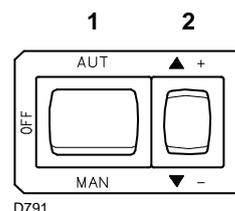
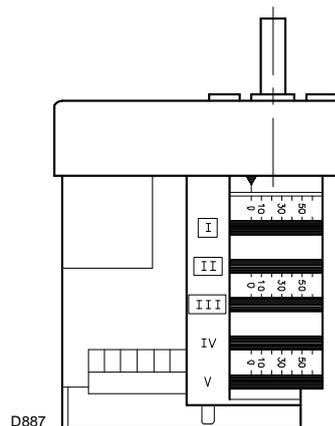

Fig. 24
Fig. 27
- Close load controls and set switch 1)(Fig. 24) to "MAN".
The servomotor (Fig. 27) provides simultaneous adjustment of the air gate valve, by means of the variable profile cam and the pressure regulator.
Press button 2)(Fig. 24) “output reduction” and keep it pressed until the servomotor has reached 20° (factory setting).
2)(Fig. 24) towards the “+” sign until the servomotor (Fig. 27) reaches the maximum position of 130°.
Press the switch 2)(Fig. 24) “output increase” a little so that the servomotor turns by about 15°.
- 5 s:** Servomotor starts: 130° rotation to right, until contact is made on cam I)(Fig. 27 at page 23).
- 69 s:** Servomotor rotates to left until contact is made on cam III)(Fig. 27 at page 23).
The servomotor returns to the 0° angle limited by contact with cam II)(Fig. 27 at page 23).